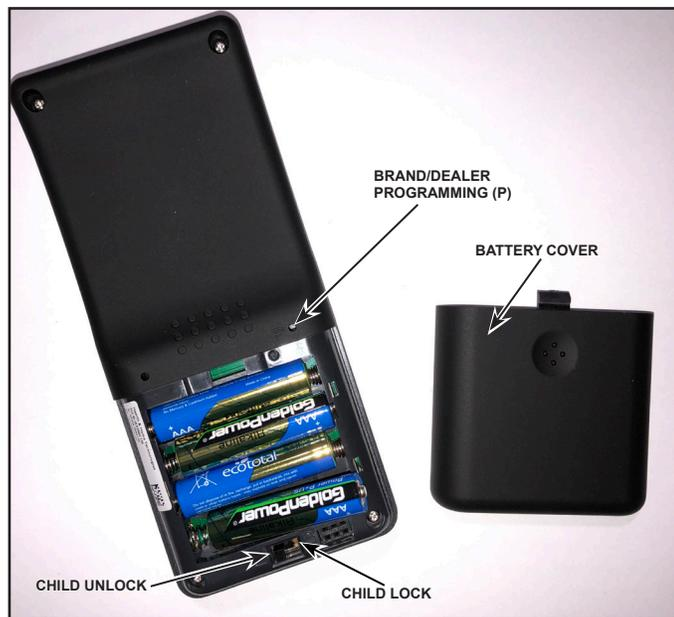

Figure 2 Install Batteries, Child Safety Switch, and Brand / Dealer Programming
6. Remove the battery cover from the back of the RC450 and install the four AAA batteries in the proper orientation marked in the battery cavity. Ensure the child lock switch adjacent to the battery cavity is in the UN-LOCKED position. See Figure 2.
2. Locate the programming hole on the back side of the remote. It is marked as "P" on the right side above the battery cover as shown in Figure 2.